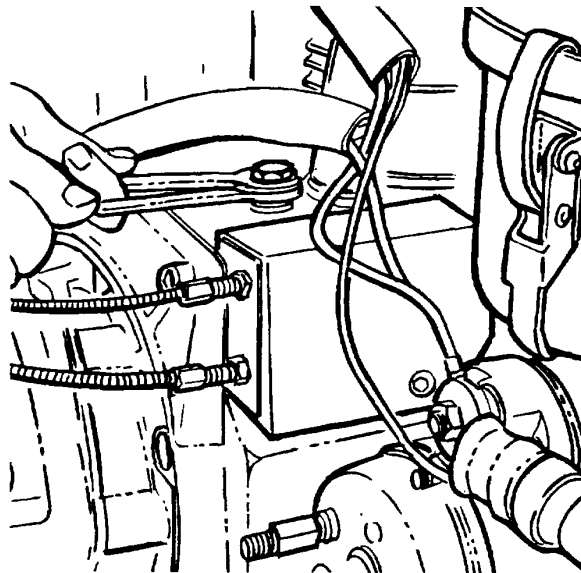

Figure 7-10. Rotating Eccentric Pin
b. If the circular mark falls before the specified distance, the fuel delivery is not sufficient. If beyond the specified distance, the fuel delivery is excessive. Rotate the eccentric pin to achieve correct specifications fig. 7-10.